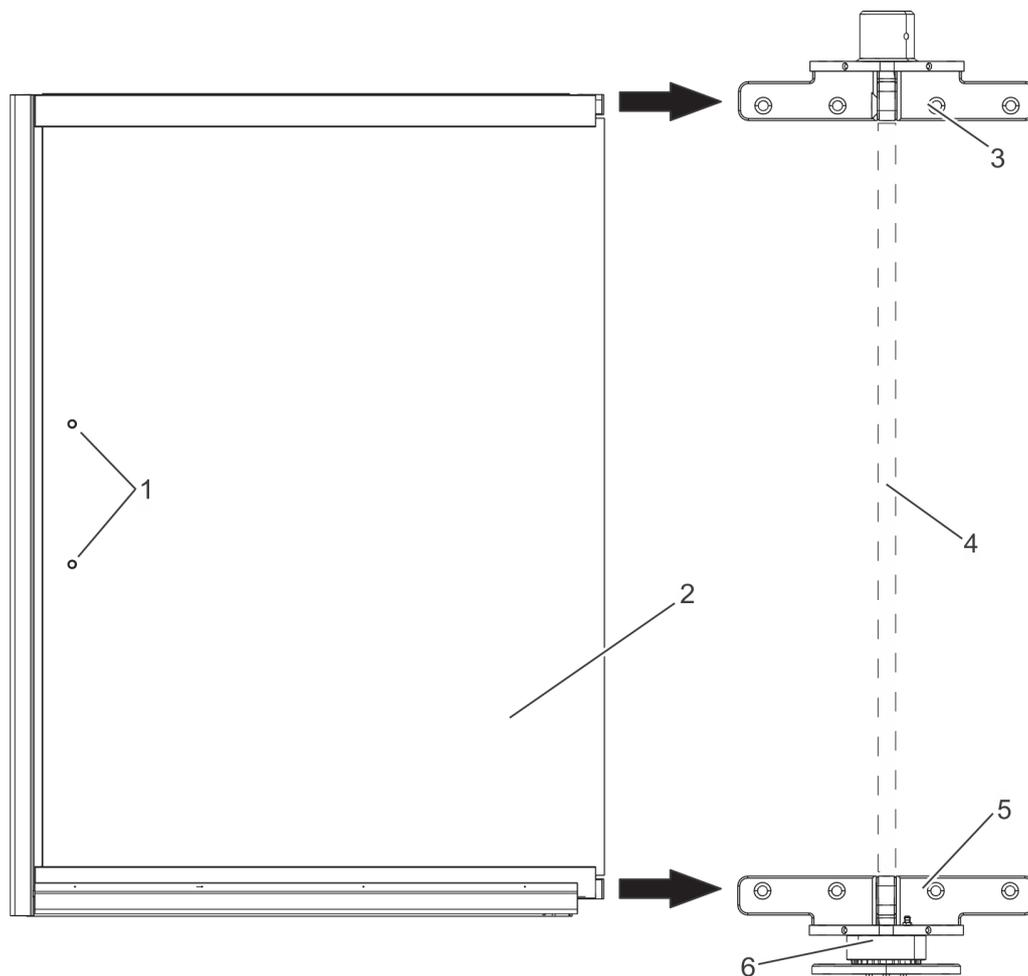

Fig. 97 Pushing wings on without turnstile
1. Insert the floor bearing into the bearing shell (Fig. 97/6) according to the manufacturer's instructions provided and lubricate it.
2. Remove the transport securing devices on the lower and upper edge of the wing (Fig. 97/2).
3. Position the 1st wing (Fig. 97/2) with the back in front of the upper and lower cross fitting (Fig. 97/3 + 5) as shown in Fig. 97. In doing so, lower and re-adjust the upper cross fitting (Fig. 97/3) as necessary.
Carefully push the wing (Fig. 97/2) onto the lower and upper cross fitting (Fig. 97/3 + 5). If necessary, Adjust the strap when pushing on the wing (Fig. 97/2).
5. Connect the upper cross fitting (Fig. 97/3) with the wing.
6. Connect the lower cross fitting (Fig. 97/5) with the wing.
7. Push on the 2nd wing (Fig. 97/2) as described in steps 3–7 and connect with cross fittings (Fig. 97/3 + 5).
Remove the strap from the upper cross fitting (Fig. 97/3)
8. Insert the PVC cover strip (Fig. 97/4) in the center of the axis between the cross fittings (Fig. 97/3 + 5).
9. Push on the remaining wings as described in steps 3-7 and connect with cross fittings (Fig. 97/3 + 5).
18. If necessary, Mount the handles to the pre-drilled holes (Fig. 97/1) in the wings (Fig. 97/2).